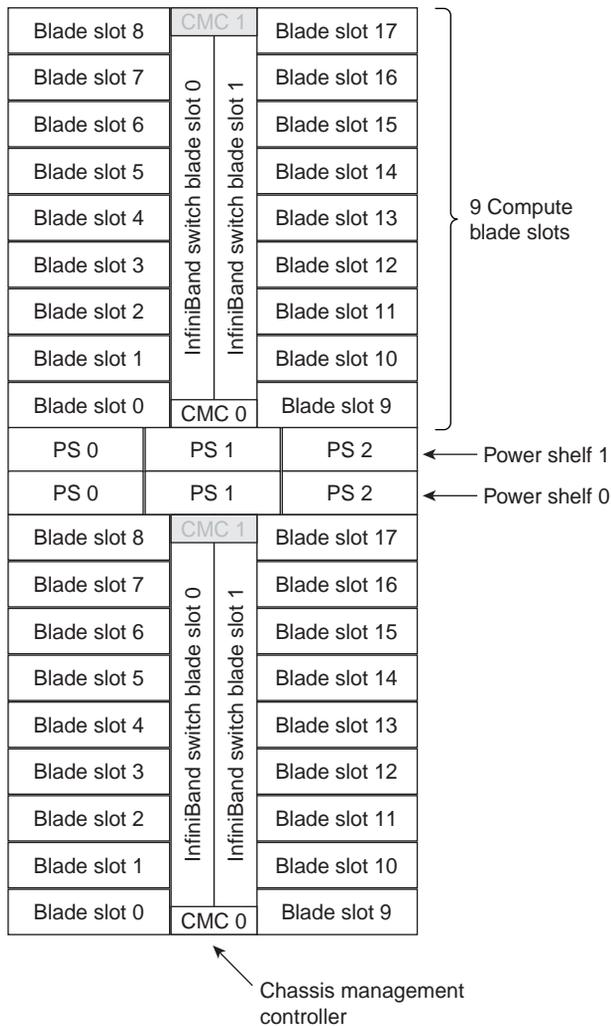

Figure 3-10 Single-node Blade Enclosure Pair Component Front Diagram
- **Single-wide compute blade.** Holds two processor sockets and up to 16 memory DIMMs. See Figure 3-10 on page 42 for an example of blade number assignments.